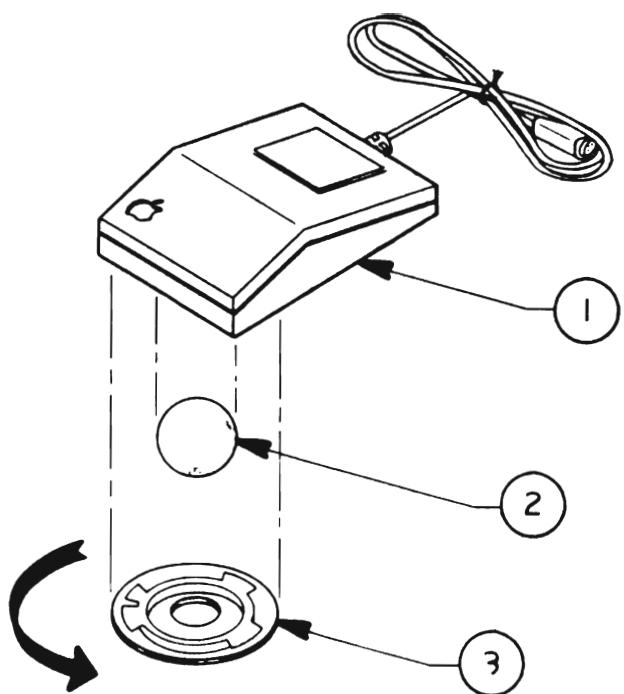

FIGURE 4
- IPL.9 Mouse (Figure 4)
MOUSE (Figure 4)